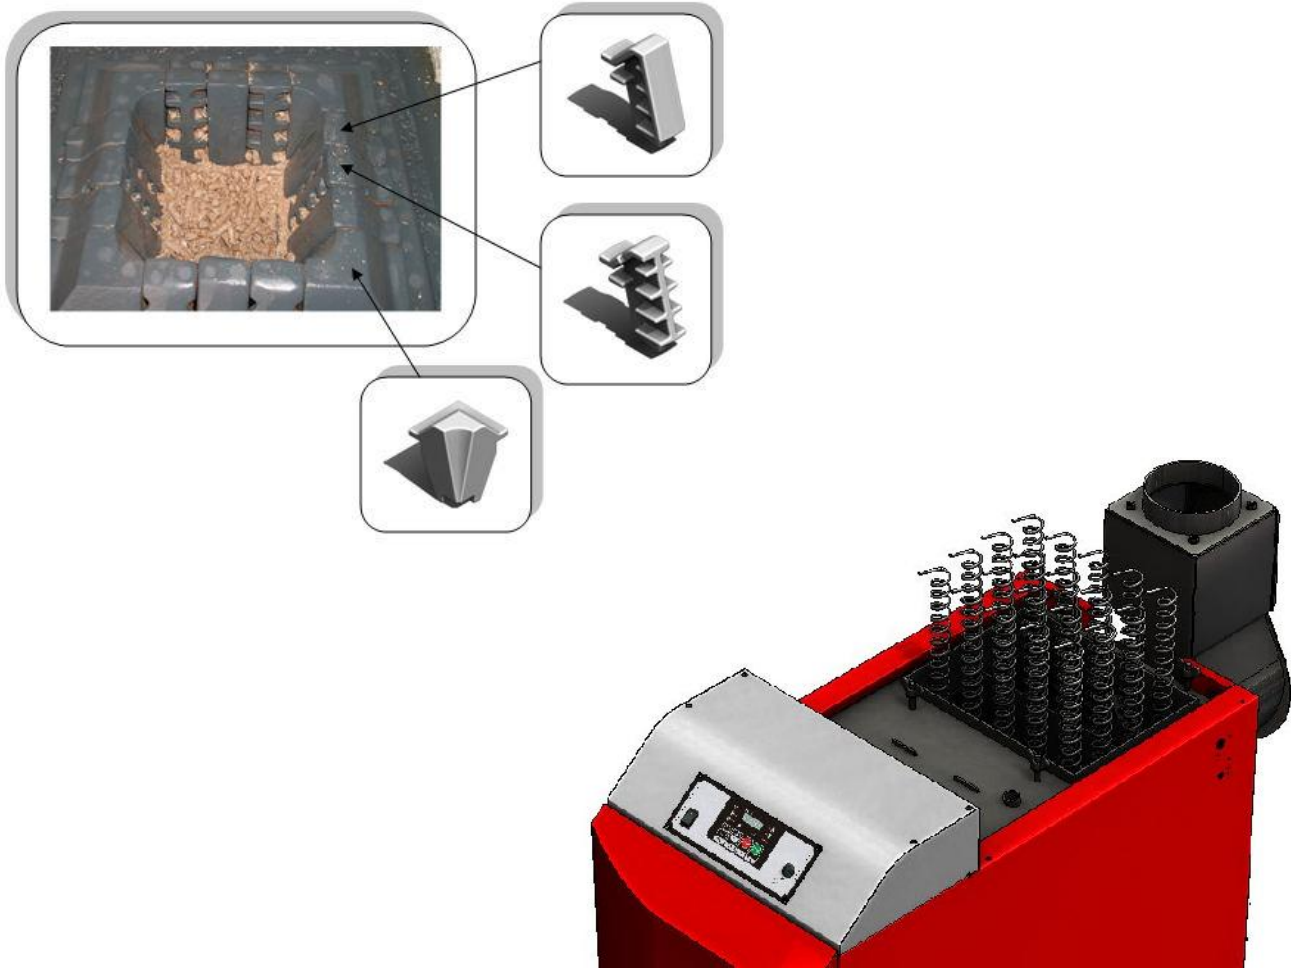

Figure 19. Showing removing of turbulence unti from the boiler BIOmax and removal of cast segments of furnace
- Once a month you need to open the top cover for cleaning (dimensions 372mm x 285mm), remove the turbulence units, and from the whole available space of the boiler remove tar and soot. All you take off at that time is then collected through the bottom hole. Cleaning of exchanger tubes is done by moving the turbulence unit up and down (see **Figure 19**). Also, once or twice, during the heating season, it is important to clean the segments of cast iron in the furnace, which can be easily dismantled (first angular segments are removed by pulling them upwards, and then the others by swinging and pulling up) (see **Figure 19**).